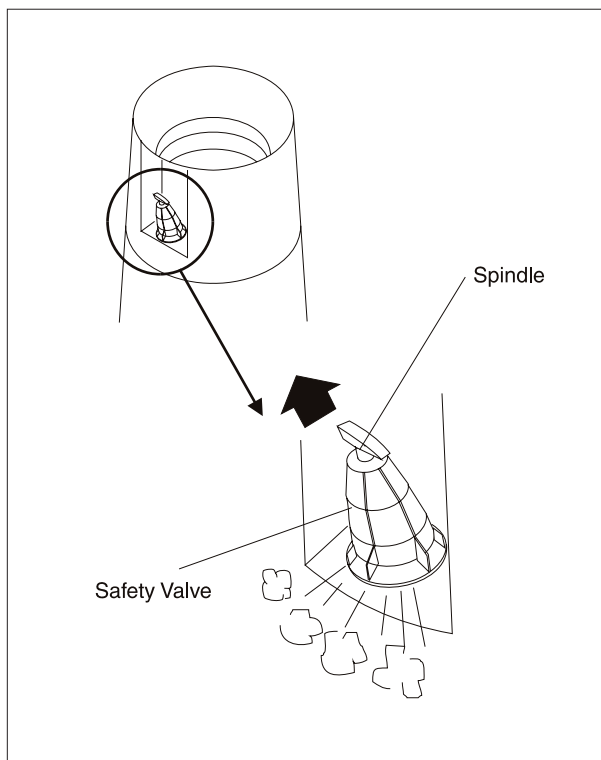

Fig 1
**2)** Discharge the excesspressure in the container by drawing out the spindle in the safety valve (see fig. 1) before loosening the top cover.